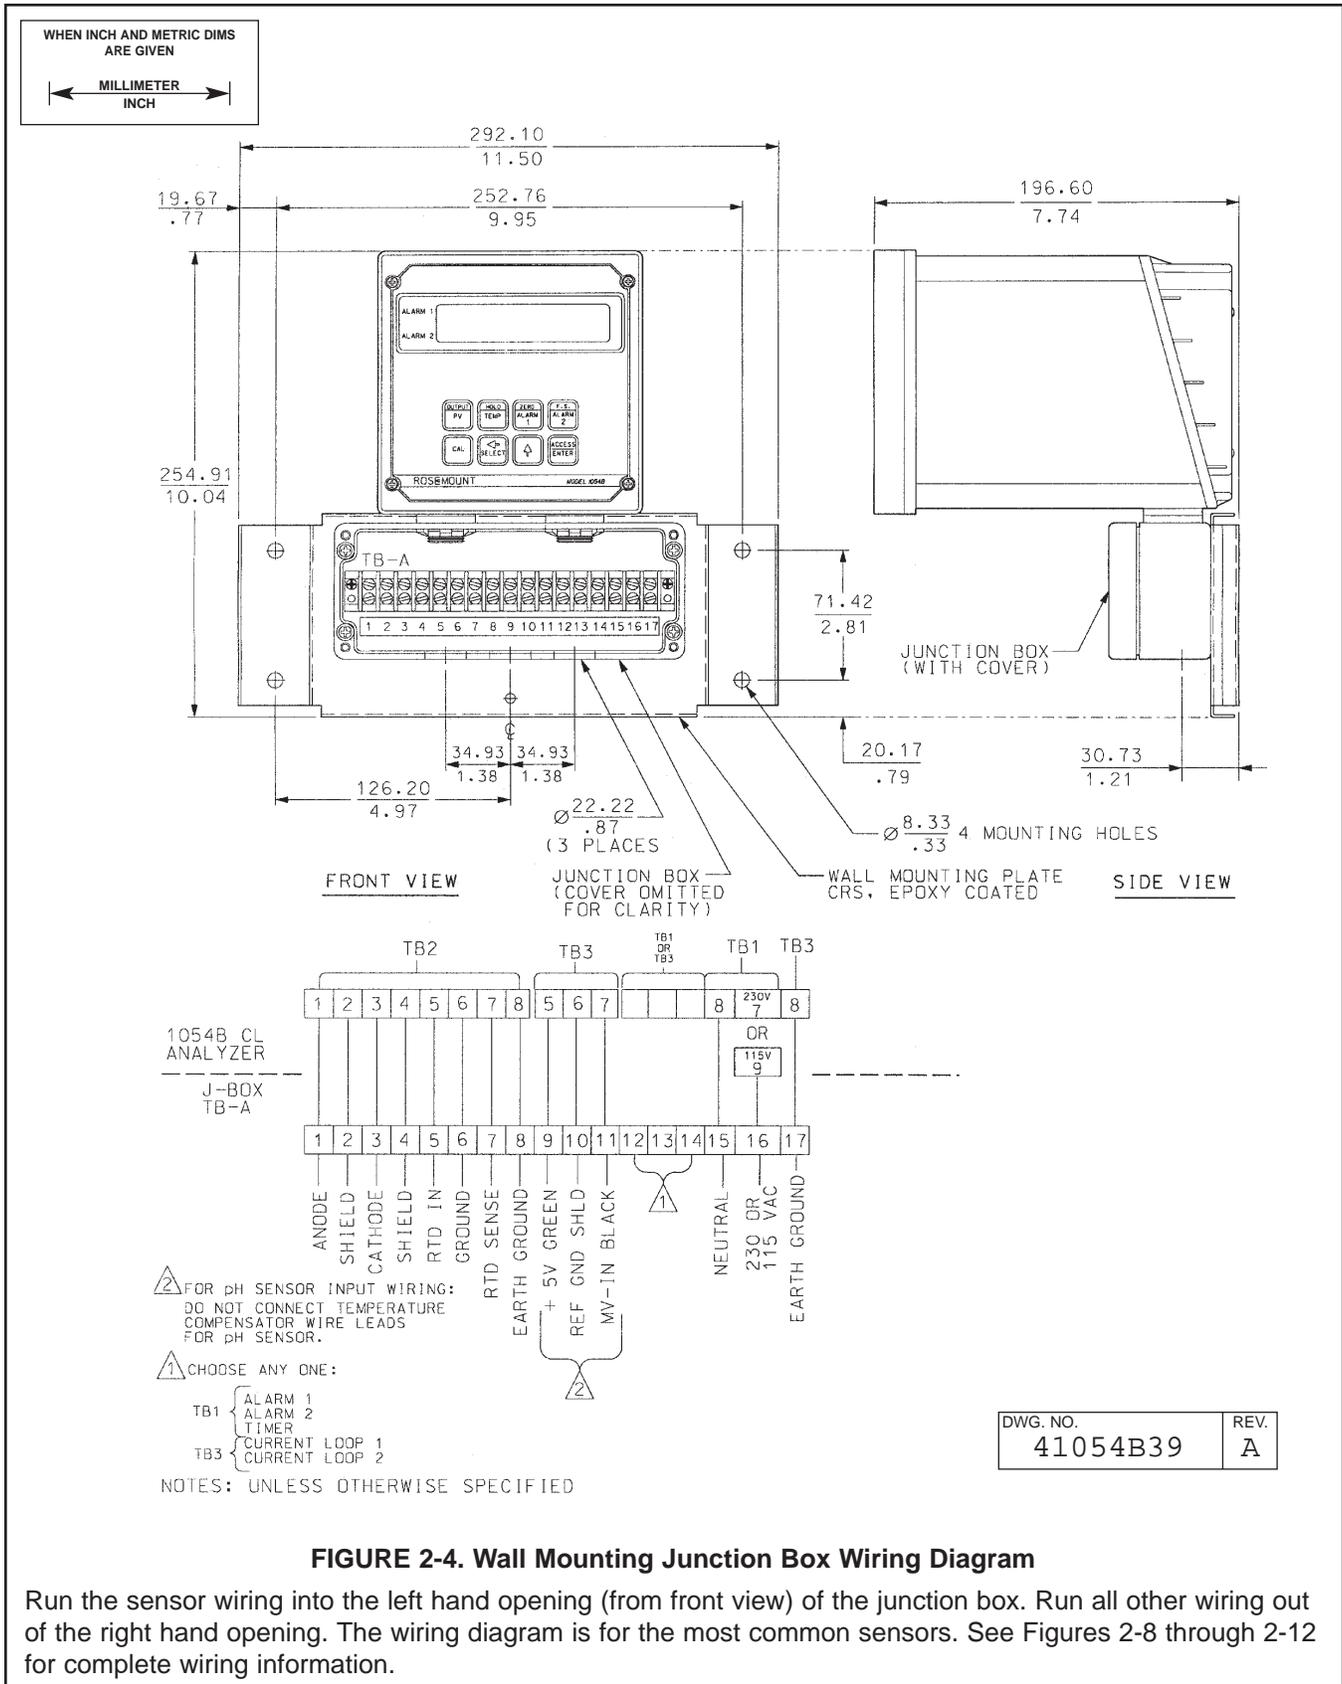

FIGURE 2-4. Wall Mounting Junction Box Wiring Diagram
5. Complete the wiring connections between the analyzer and the junction box. Refer to Figure 2-4.